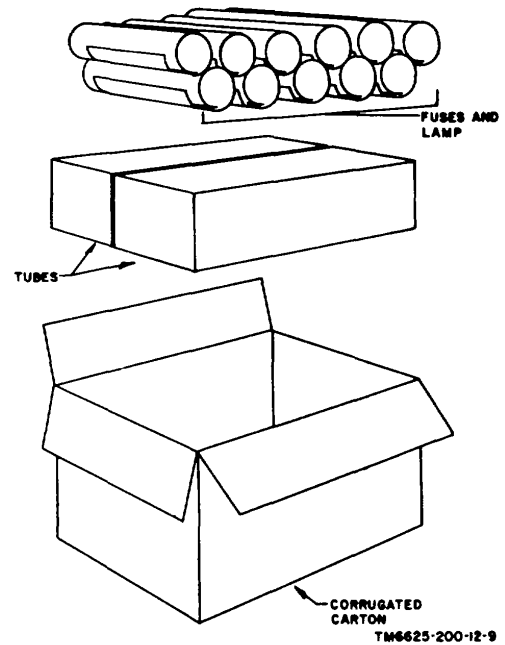

Figure 2-2. Running spares packing diagram.
(1) Open the corrugated carton and fold back the top flaps.
(2) Remove the envelope that contains the technical manuals; open the envelope and remove the technical manuals.
(3) Remove the top pad, the rear pad, the left and right side pads, and the front frame.
(4) Remove the multimeter from the corrugated carton.
c. Unpacking Running Spares (fig. 2-2).
(2) Remove the running spares from the carton.
(3) Store the running spares in the storage compartment of the multimeter (para 2-2d).